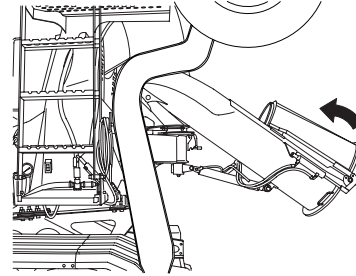

Figure 132
2. Slowly raise the chute into stored position (Figure 132).